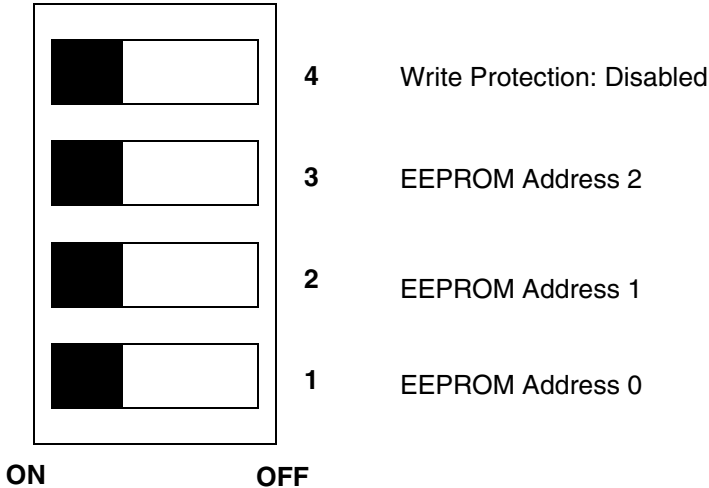

Figure 10. SW7 Settings for the MPC8272 Connection to the MSC7115 Device
- *SW7*. I²C EEPROM Address and Protection Mode. **Figure 10** shows the SW7 switch settings.